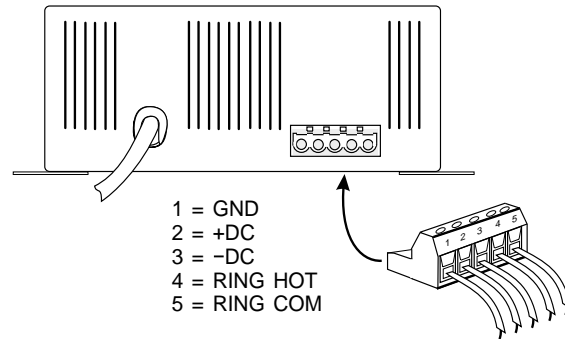

Figure 1 Model 703 cabinet showing 5-position plug-in terminal strip.
3.6 OUTPUT CONNECTIONS Before connecting to the DC and ring outputs ensure that the power cord is not plugged into the selected AC outlet. Be certain that neither of the status LEDs are lit. The DC and ring output connections are made via a 5-position plug-in terminal strip. The terminal strip is located on the bottom face of the unit, adjacent to the where the power cord exits the chassis, as illustrated in Figure 1.